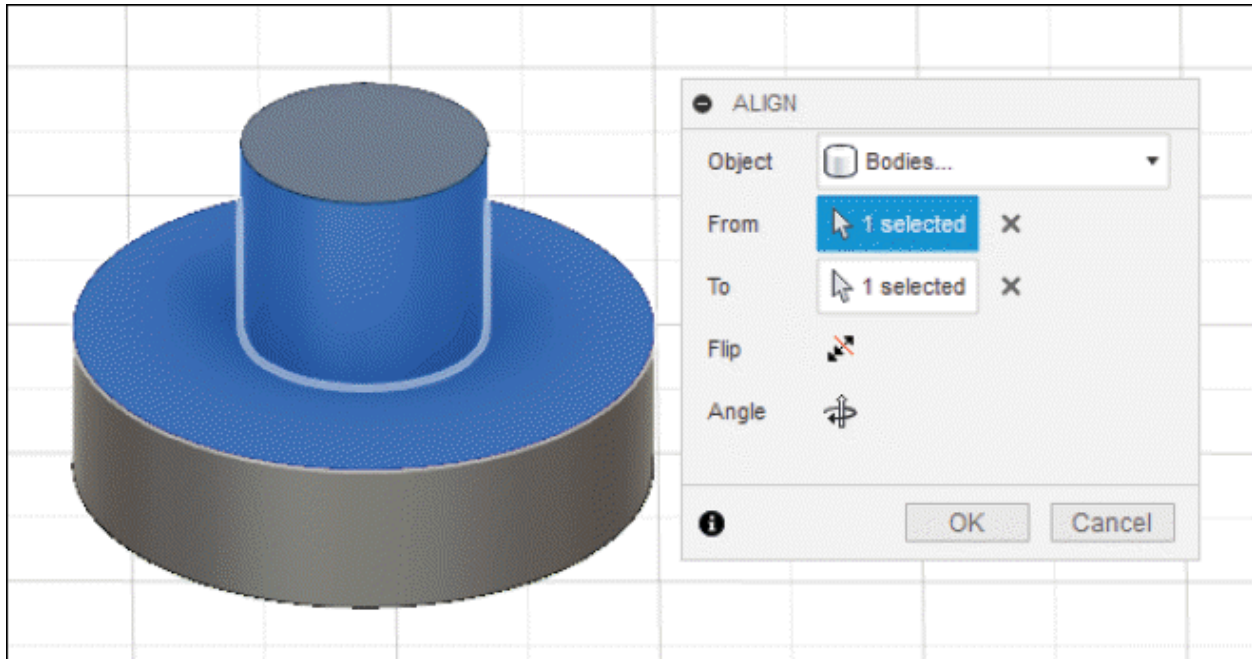

Figure-61. Preview of align
- On selecting the point on second body, the two selected body will align to each other at selected location; refer to Figure-61.